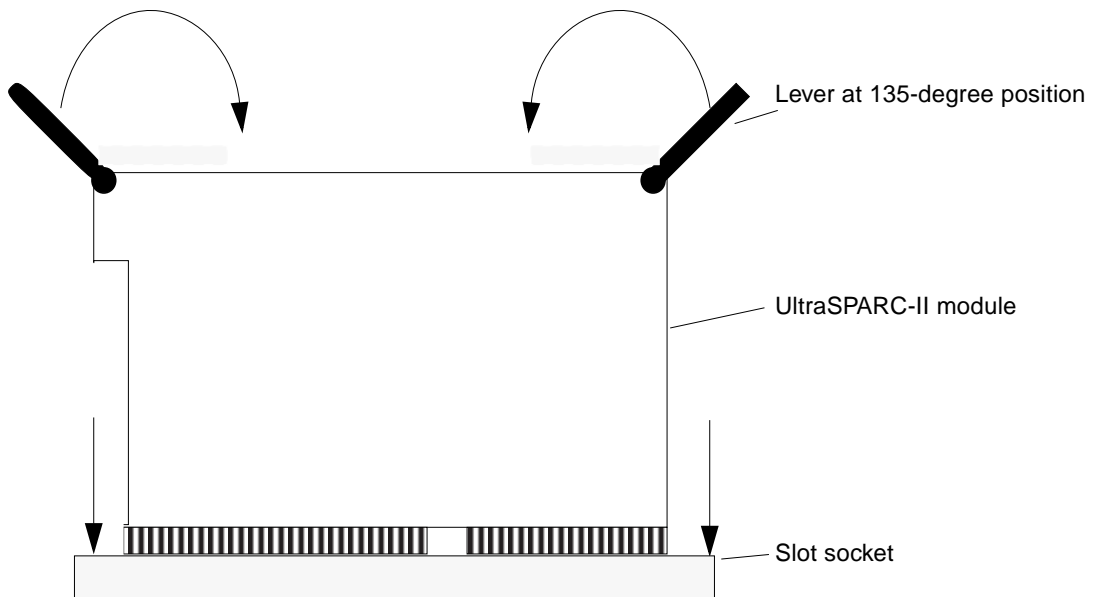

FIGURE 1-7 Locking the Module in Place
4. **Move the levers on the module to an approximately 135-degree position (FIGURE 1-7).**
6. **With both hands, simultaneously turn and press the levers downward to the fully horizontal position (FIGURE 1-7). Firmly press the module downward into the slot socket until it is fully seated and the levers are fully locked.**